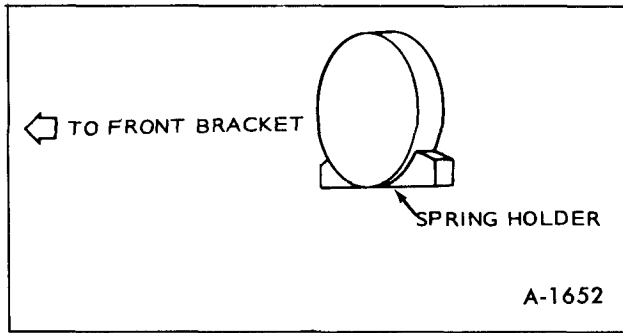

Figure 64—Spring Holder Placement
5. Place the lever spring and the spring holder into the front bracket with the direction shown in Figure 64.